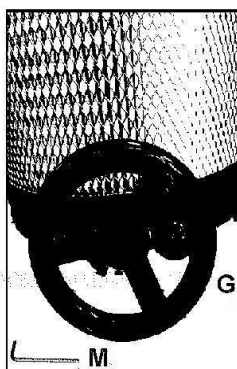

FIG. 3
- Hex Wrench 3mm (M)
1. Assemble the Filter Cleaning Handle (G) onto the canister's Spindle (#4) and secure it in place with the Hex Bolt (#20) using the 3mm hex wrench provided. Figure 3.